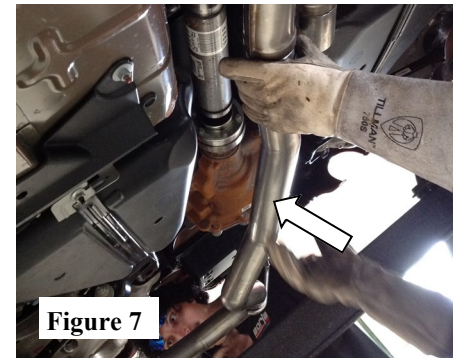

Figure 7
3. Install the L/H Intermediate Pipe Assembly to the Left-side of vehicle inserting the hangers into the rubber isolators. (See Fig. 7)